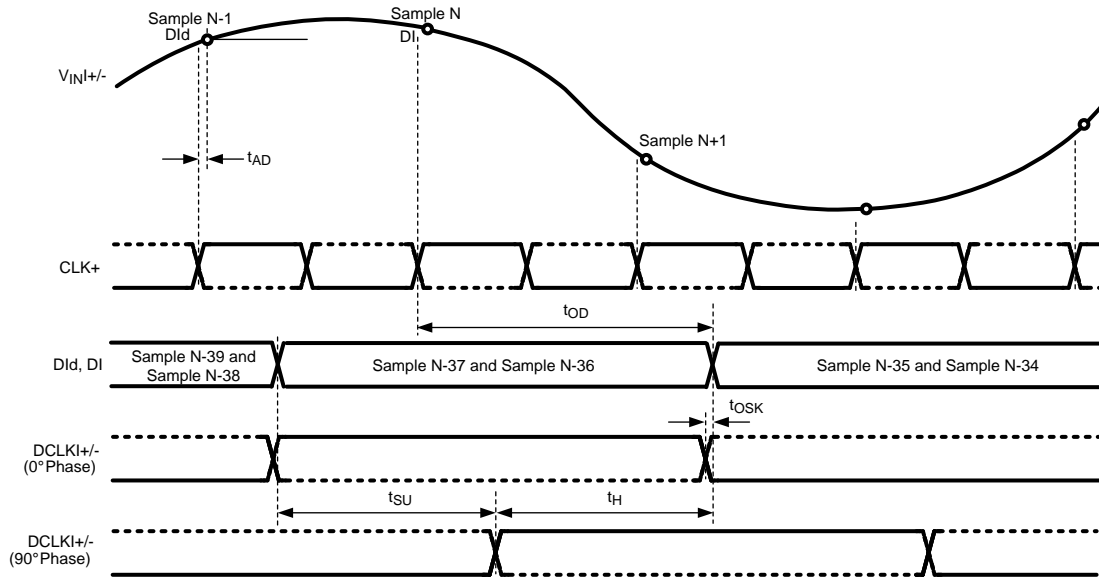
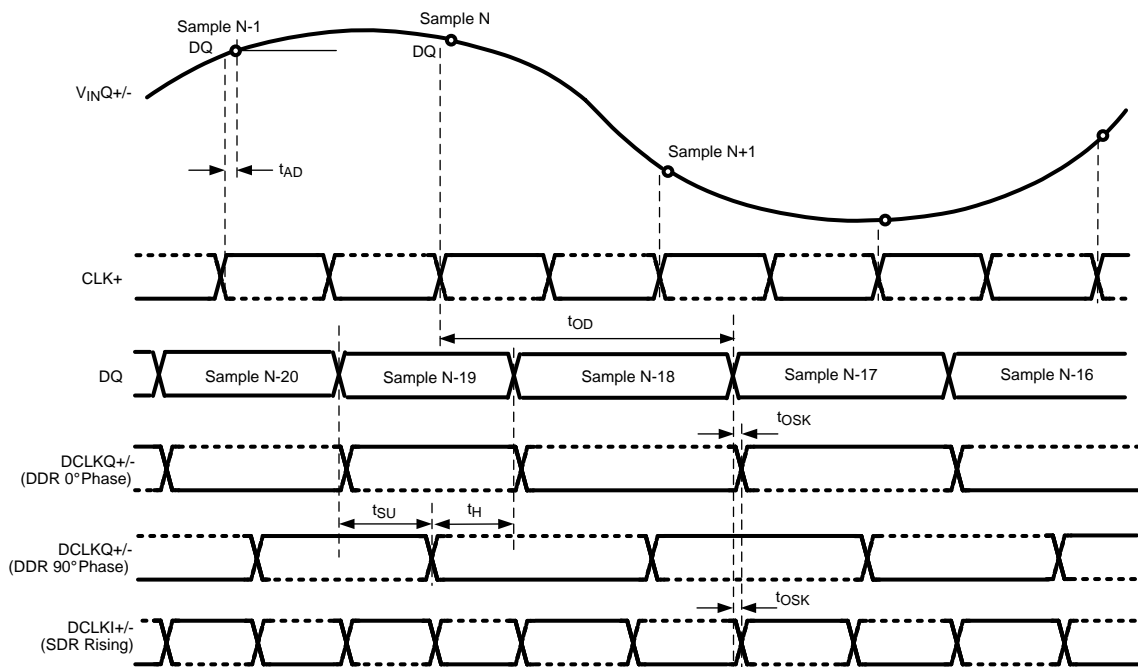

Figure 4. Clocking in Non-LSPSM, 1:2 Demux, Non-DES Mode*
Figure 9. Clocking in LSPSM, Non-Demux Mode, Non-DES Mode*
* The timing for Figure 4 through Figure 9 is shown for the one input only (I or Q). However, both I- and Q-inputs may be used. For this case, the I-channel functions precisely the same as the Q-channel, with VinI, DCLKI, DI and DId instead of VinQ, DCLKQ, DQd and DQ. Both I- and Q-channel use the same CLK.